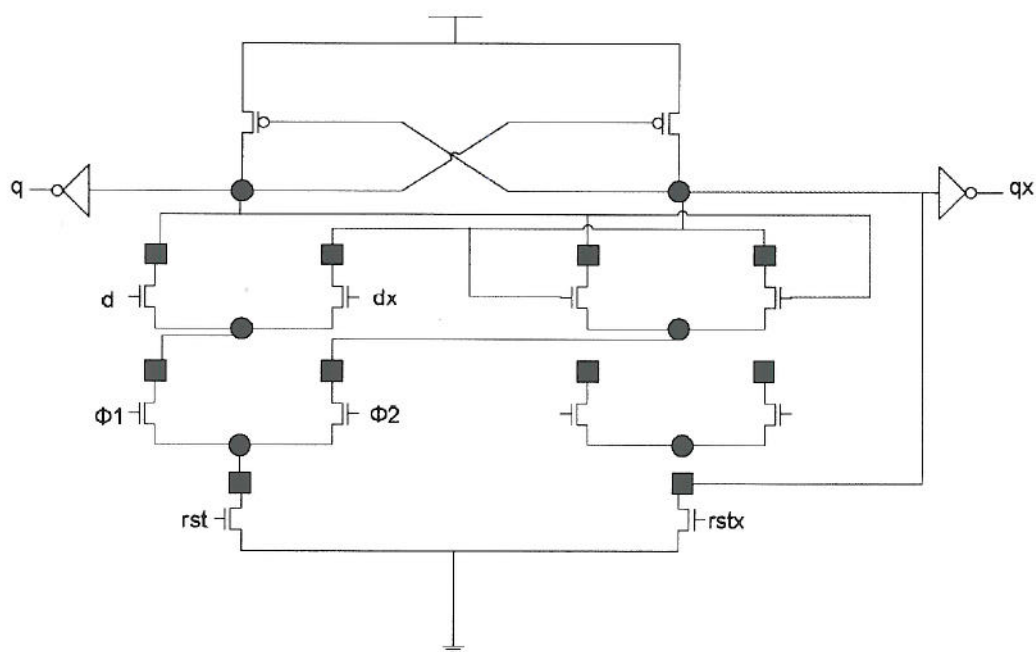

Figure 3.3
c) Explain why the circuit shown in *Figure 3.3* implements a transparent latch? What are the timing constraints necessary for the input signals $\Phi 1$ and $\Phi 2$?